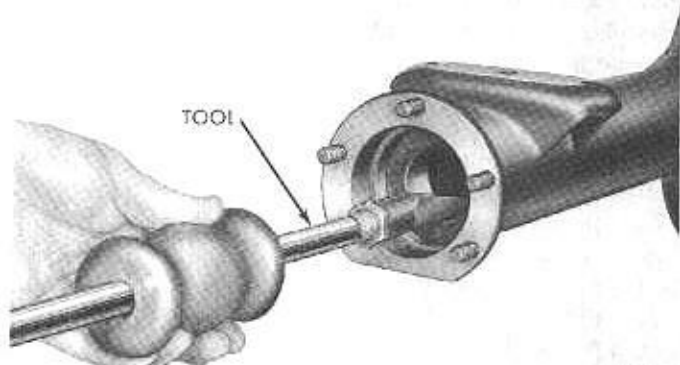

Fig. 4—Removing Axle Shaft Oil Seal
(5) Remove axle shaft oil seal from axle housing using Tool C-637 (Fig. 4).